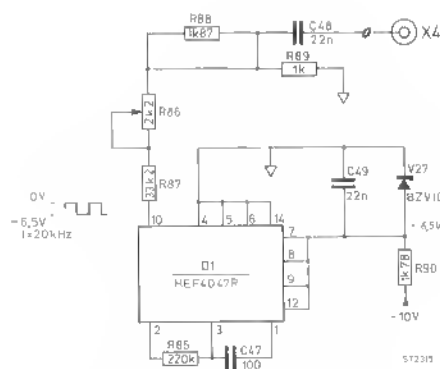

Fig. 13. Reference voltage generator
7.3. Reference voltage generator, fig. 13